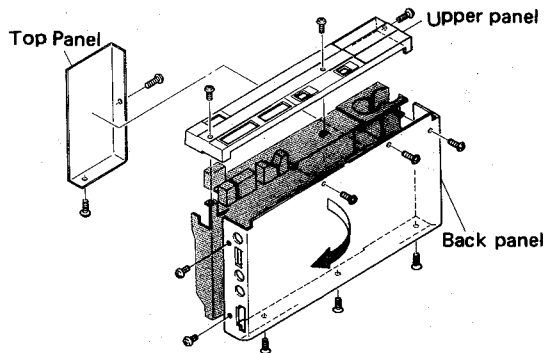

Fig. 1
Remove the eight screws and take off the back panel cautiously as shown by the arrow. Since the sockets and the volume knobs are easily caught by the back panel. (See Figure 1.)
Remove the three screws to take off the upper panel. (See Figure 1.)
(3) Cassette lid
- * It is easier to detach the top panel when removing and refitting the cassette lid. But do not force the top panel as it is fixed with double-sided tape. (See Figure 1.)